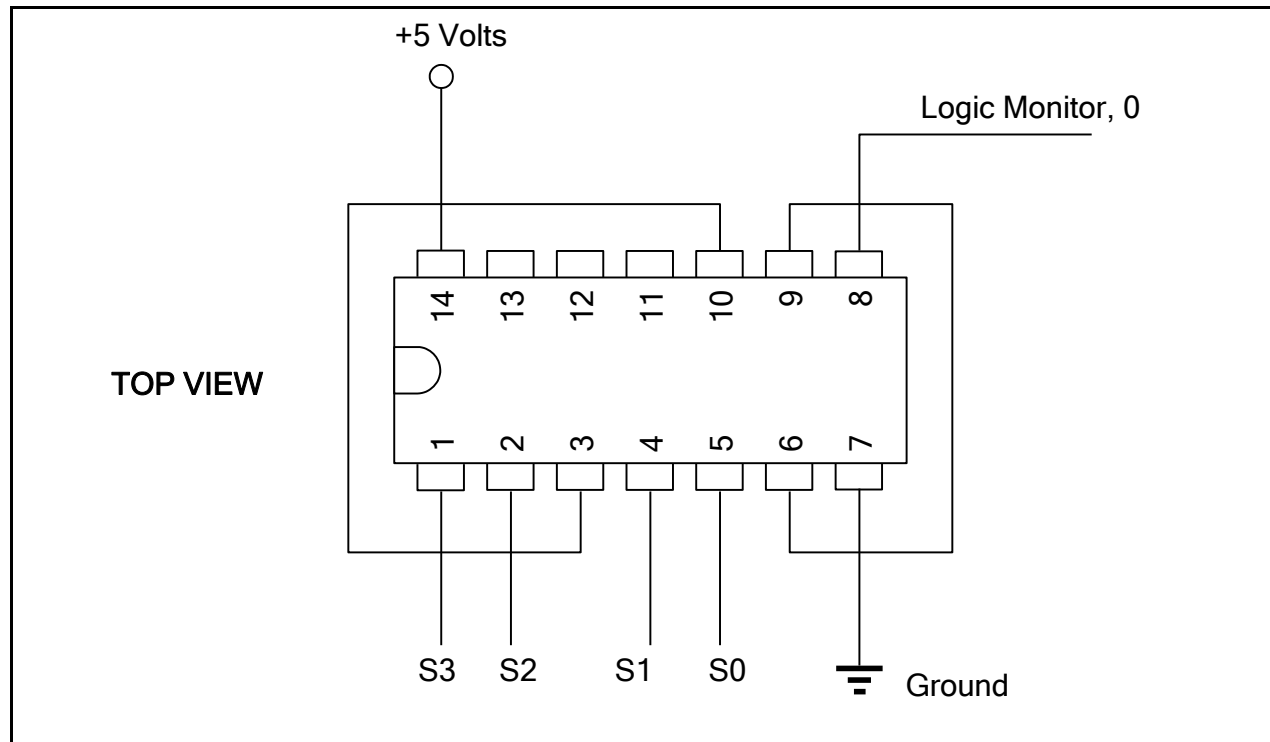

FIGURE 2
- Turn power to the PB-505 OFF and wire the IC chip according to Figure 2. The logical switches labeled S3, S2, S1, and S0 provide the input binary number. The lamp in the logic monitor labeled "0" should provide the visual output signal. HAVE YOUR CIRCUIT CHECKED BY THE INSTRUCTOR PRIOR TO APPLYING POWER AGAIN!!